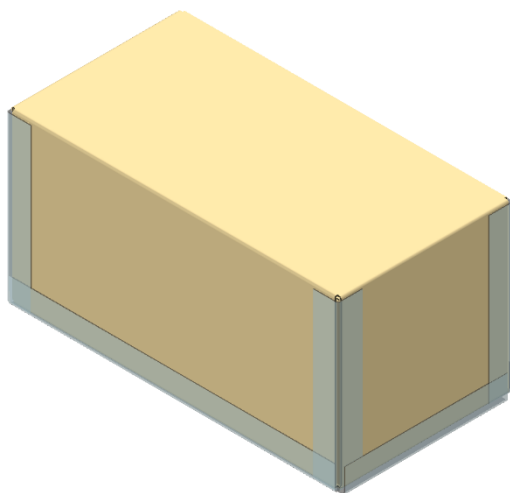

Figure 5: Closure of FPF box
- **FPF** (Five Panel Folder) See Figure 5